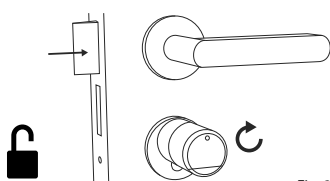
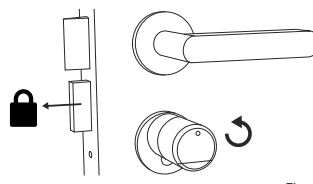

Fig. 2
Fig. 3
- 2 The cylinder is now released and the lock can be opened (Fig. 2) or locked (Fig. 3).